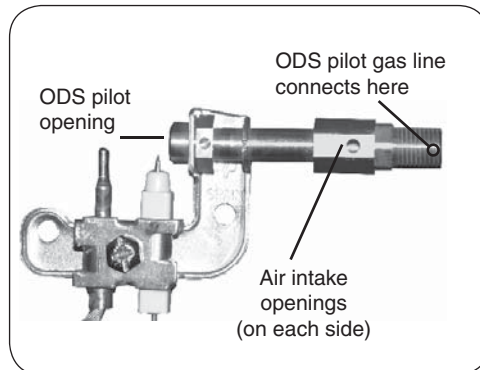

Fig. 22-1
1. Turn the burner system to the **OFF** position and allow it to cool. Inspect the ODS pilot area (see Fig. 22-1) for any visual contamination or debris (usually lint, hair, spider webs, or small insects). Lightly brush off all external surfaces while vacuuming loosened debris from the ODS pilot opening. **Be careful not to brush any foreign material into the ODS pilot opening.**
2. Clean out the air intake openings (see Fig. 22-1) by lightly brushing around the openings while vacuuming.
4. If the ODS pilot flame does not burn as indicated in the instructions, extinguish the ODS pilot by turning the valve to the full **OFF** position. Using a compressed air duster, insert the flexible nozzle through the air intake openings, ensuring that the nozzle is pointed toward the ODS pilot opening (see Fig. 22-1). Blow air through the intake openings to clear out any debris that may be in the system.
5. Relight the ODS pilot and inspect it to be sure it is burning as shown in the instructions. If not, extinguish the ODS pilot and **turn off the gas supply to the burner system.** Using an adjustable or a 1/4" wrench, disconnect the ODS pilot gas line (see Fig. 22-1) from the valve.